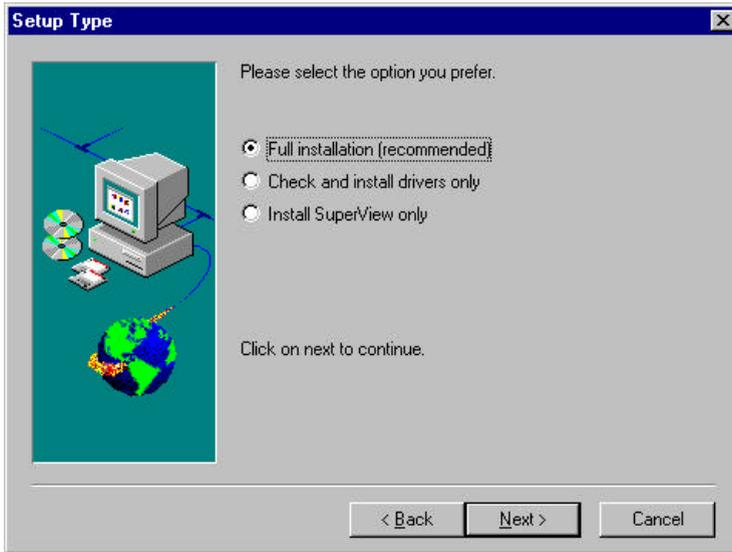

Figure 4-2: The Setup Type Window
3. The **Setup Type** window shown in Figure 4-2 appears next. Select *Full installation* (recommended) and click *Next* to install both the drivers and the SuperView program.
6. The Setup Type window shown in Figure 4-2 appears next. Select *Full installation (recommended)* and click *Next* to install both the drivers and the SuperView program.